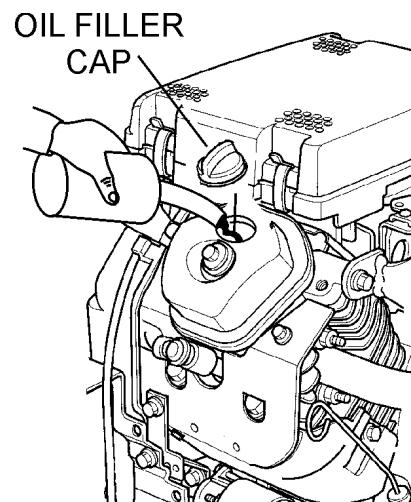

Figure 8. Engine Oil Filler Port
4. If the oil level is low, remove the oil filler cap (Figure 8) and fill to a safe operating level (max) as indicated by the dipstick. Fill with recommended type oil as listed in Table 4. Maximum oil capacity is 1.90 quarts (1.8 liters).